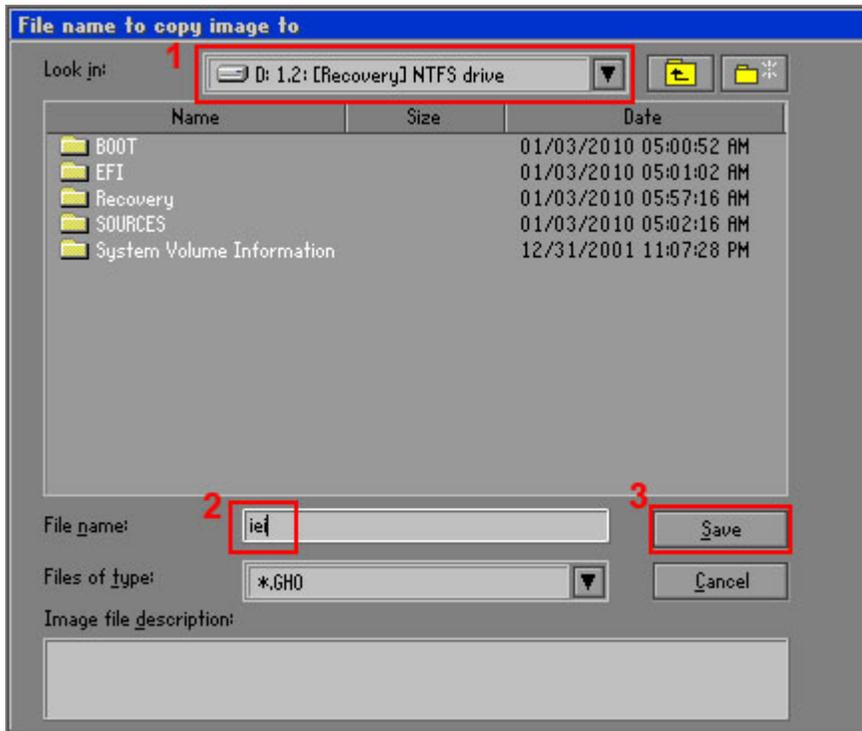

Figure C-16: File Name to Copy Image to
Step 7: Select 1.2: **[Recovery] NTFS drive** and enter a file name called **iei** (**Figure C-16**). Click **Save**. The factory default image will then be saved in the selected recovery drive and named **IEI.GHO**.